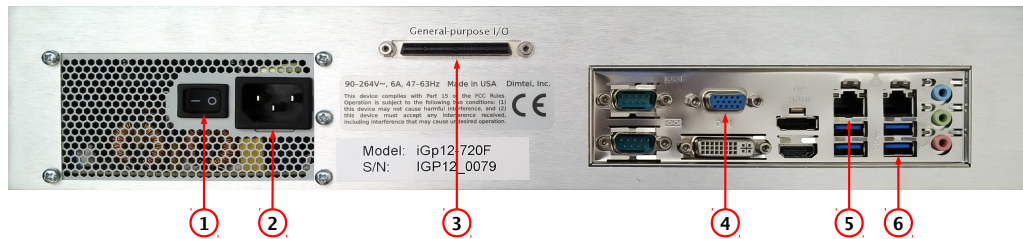

Figure 3: Rear panel features
6. Connect a USB keyboard (Fig. 3, item 4);
7. Connect a video monitor (Fig. 3, item 5);
Setup program is included in the IOC for configuring the important features of the iGp12-720F. The program can be executed locally or remotely. For local execution one must first connect a keyboard (Fig. 3, item 4) and a video monitor (Fig. 3, item 5) to the system. For remote setup, use `ssh` after system bootup to establish connection. In both setup methods the user must login as `root` (initial password is supplied with the system). If the newly received iGp12-720F must be configured remotely (when, for example, a keyboard or a monitor is not available), such configuration can be performed using a
- Make sure no cable is connected to the general-purpose digital I/O port (Fig. 3, item 3);